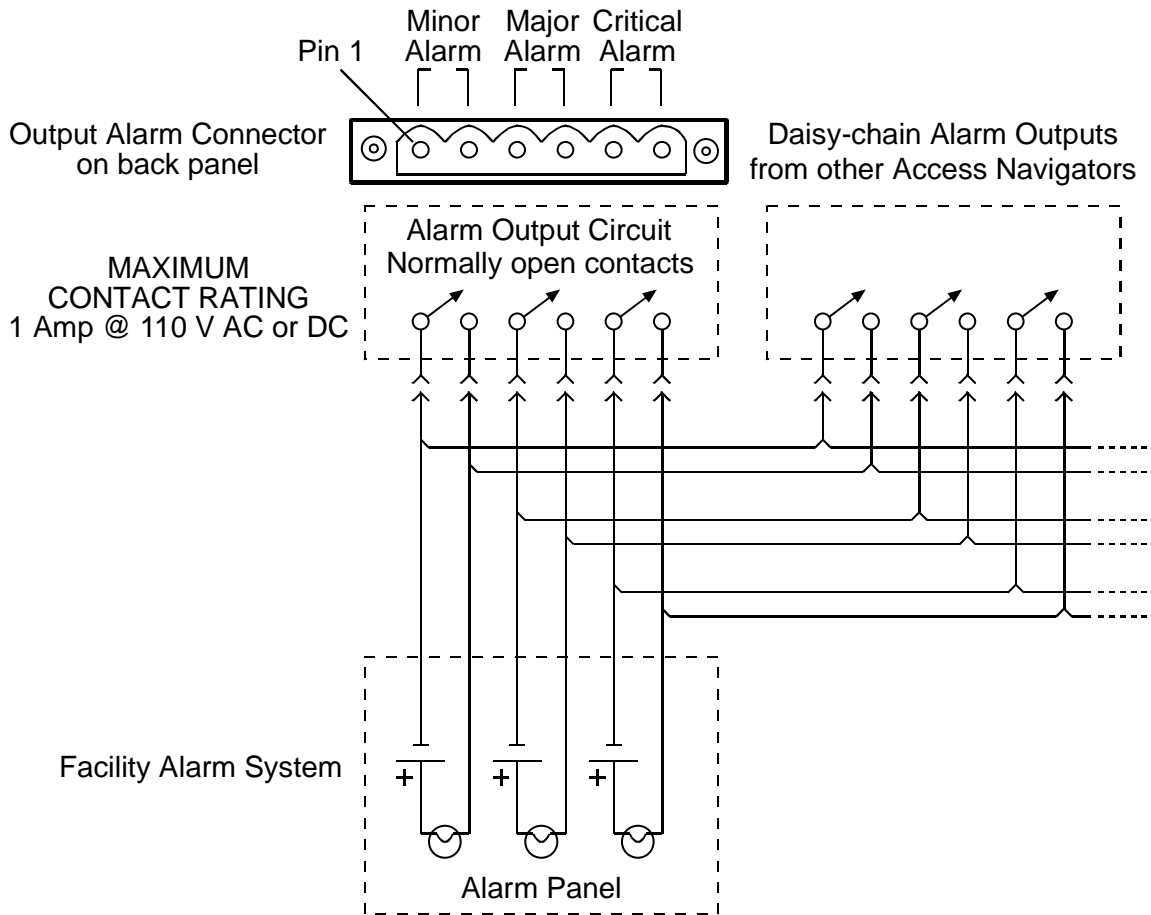

Figure 6-16. Typical Connections to Facility Alarm System
**NOTE:** Figure 6-16 shows the alarm output connector wiring to a typical alarm interface circuit. The alarm relay output provides normally open contacts. There is no voltage present on these contacts until they are energized by the external alarm system.
2. Refer Figure 6-16 and Figure 6-17 when wiring connector to facility alarm system.
3. Use volt-ohm meter to ensure that **no voltage** is present on any of the wires going to the facility alarm system (see Figure 6-16).